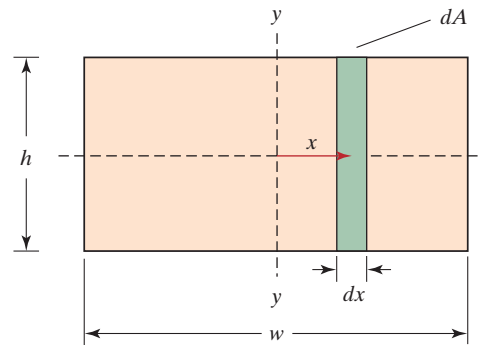

FIGURE 18.25
Step 2: We substitute for $dA = h dx$ (see Figure 18.25).